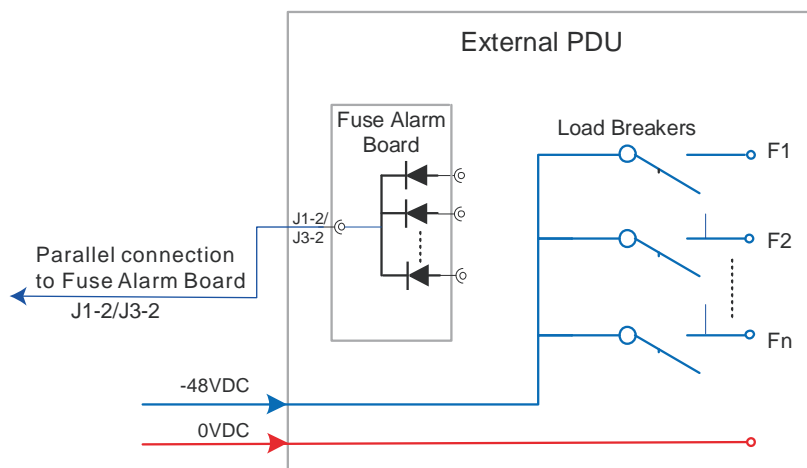

Figure 4-7 3U PDU Alarm Connections
3. Connect the external PDU load breaker alarm cable to the J1-pin2 or J3-pin2 terminal on the fuse alarm board in the system unit (Figure 4-7).